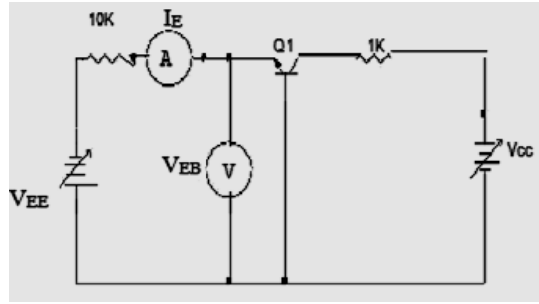

Figure: 3 Input Characteristics
- Connect the electrical circuit as shown in Figure 3.